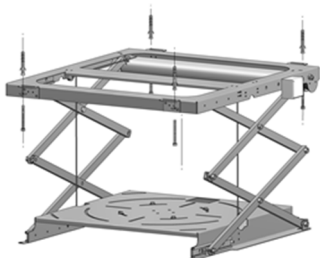

Fig 1
1. Assemble the base of the lift to the structural ceiling using screws and rawlplugs adequate to ceiling type (assembly points are shown on the image below). Remember to prepare an adequate opening in the suspended ceiling for the installation. (Fig. 1)